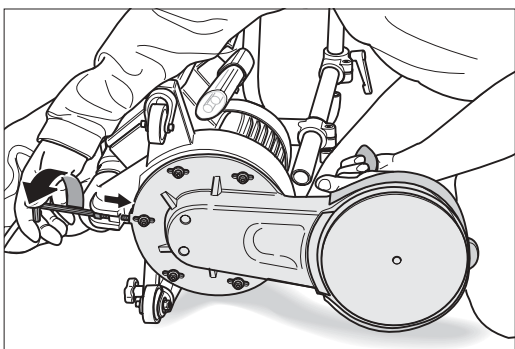

Fig. 59: Screw the belt-tensioning screw all the way in until it rests against the attachment.
- 8 Set the attachment down again use the proper Allen key to screw the belt-tensioning screw all the way forward until it rests against the attachment (Fig. 59).